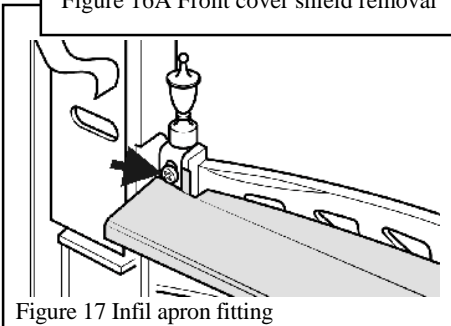

Figure 17 Infill apron fitting
- Remove the two screws securing the brass finials to the lower cross member of the front casting. Fit the bottom infill apron behind the finial brackets. Secure with the two screws. See figure 17.